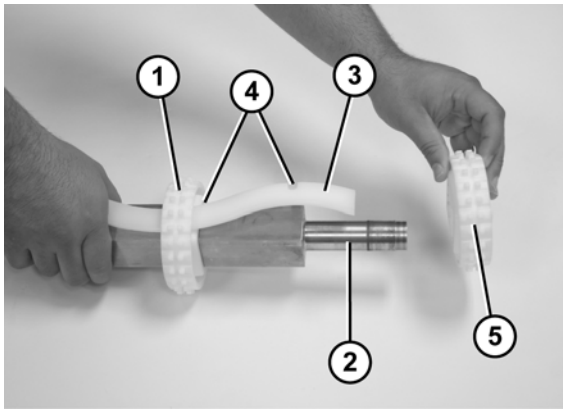

Figure 81
1. Slide the first sprocket (**Figure 81, item 1**) onto the drive spindle (**Figure 81, item 2**).
2. Insert the sprocket alignment bar (**Figure 81, item 3**) into the first sprocket and align the sprocket with the notch (**Figure 81, item 4**) in the sprocket alignment bar.
3. Slide the remaining sprockets (**Figure 81, item 5**) onto drive spindle and align each sprocket with the notches (**Figure 81, item 4**) in the sprocket alignment bar.